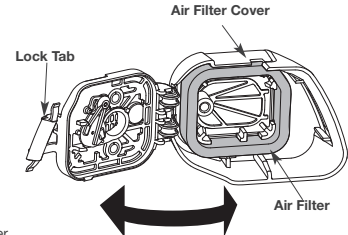

Fig. 19
1. Open the air filter cover by pressing the lock tab in and pulling out on the air filter cover (Fig. 19).
2. Remove the air filter (Fig. 19).
6. Replace the air filter into the air filter cover (Fig. 19).
7. Close the air filter cover by swinging it to the left and then pressing it down until the lock tab snaps into place (Fig. 19).